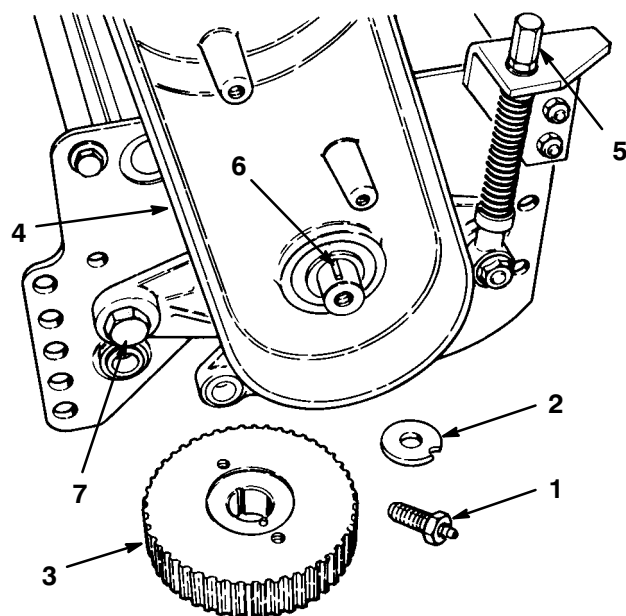

**Figure 30**
4. Disassemble the cone nut from the shoulder bolt securing the bearing housing to the sideplate, remove the Belleville washer and bolt, and slide the bearing housing off of the reel shaft (Fig. 30).
5. Remove the cover from the drive housing and remove the drive belt from the housing (Fig. 30).